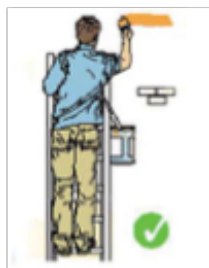

Figure 1b - correct position
- ▲ Keep your belt buckle (navel) inside the stiles and both feet on the same rung throughout the task (see Figures 1b and 2b)